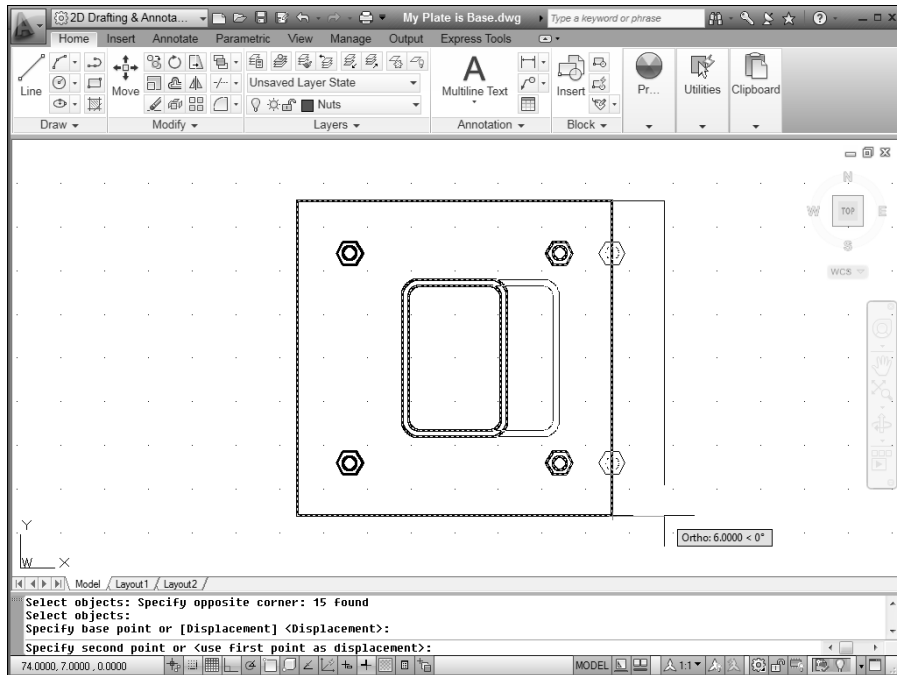

Figure 3-14:
8. Move the crosshairs to the right until the tooltip shows a displacement of 6 [150] units to the right, and then click in the drawing space (see Figure 3-14).
AutoCAD stretches the column and plate by the distance that you indicate and moves the anchor bolts that were completely inside the crossing window rectangle, as shown in Figure 3-14.